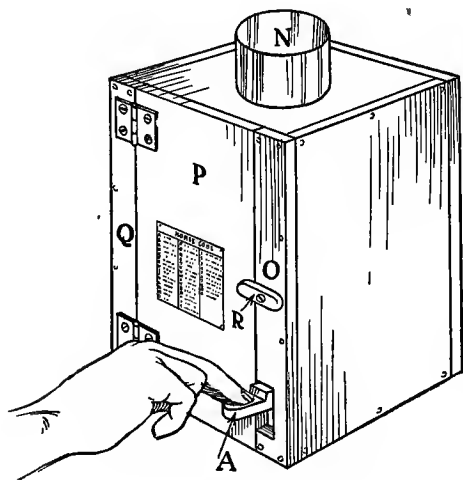

FIG. 528.—The Signal Lantern.
This will be the most convenient size. Figure 528 shows the completed piece of apparatus, with the key that controls the lengths of the signal flashes (A) in operation,
cover, with a carpet tack driven through its center from the bottom (*L*, Figs. 529 and 531), to the bottom of the lantern box as a *candle-holder*. A large hole in the top of the box will carry off the heat from the candle (*M*, Fig. 530), and it is best to fasten a can, having both ends removed, in this hole for a *chimney* (*N*, Figs. 528 and 529).
Make the Back of the Lantern Box out of three pieces (*O*, *P*, and *Q*, Fig. 528). Cut a notch in the edge of strip *O* in the proper place, and of the right size, for the lever stick to work in. Screw the wooden *button* *R* to strip *O* as a means for locking the door.
Operating the Lantern. Communication is carried on by means of *long* and *short flashes* of light. A short flash is made by a quick tap upon the key, and a long flash by holding the key for an instant. Use the Morse *telegraph code*, a copy of which is shown in Fig. 534, as your signal code, making your short flashes for the *dots* of the code, and your long flashes for the *dashes*. Make a correct copy of the code upon a piece of paper, and paste this to the back of the lantern box, as shown in Fig. 528, so you will have it before you for reference when operating the light.